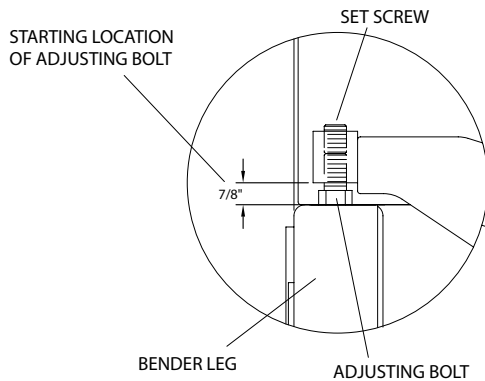

Figure 17a
The 1 1/2" and 2" rollers on the single shoe EMT Roller Support and the 1 1/2" and 2" rollers on the single shoe IMC Roller Support on the 77 bender have a Squeeze Adjustment feature if wrinkling or side marking becomes a problem during the bending process. This feature allows you to increase or decrease the amount of pressure applied to the conduit during bending, thereby eliminating these problems. Begin with the 7/8" starting location of the adjusting bolts as shown in Figure 17a.
**NOTE:** Both adjusting bolts **MUST** be in contact with the bender leg. See Figure 17a.